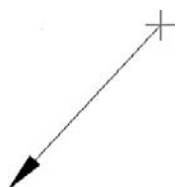

FIGURE 6.14
- Step 3.** Move your mouse at a 45° angle away from the first point and click again at a reasonable distance away. You created the *leader line and arrowhead* seen in Figure 6.14.